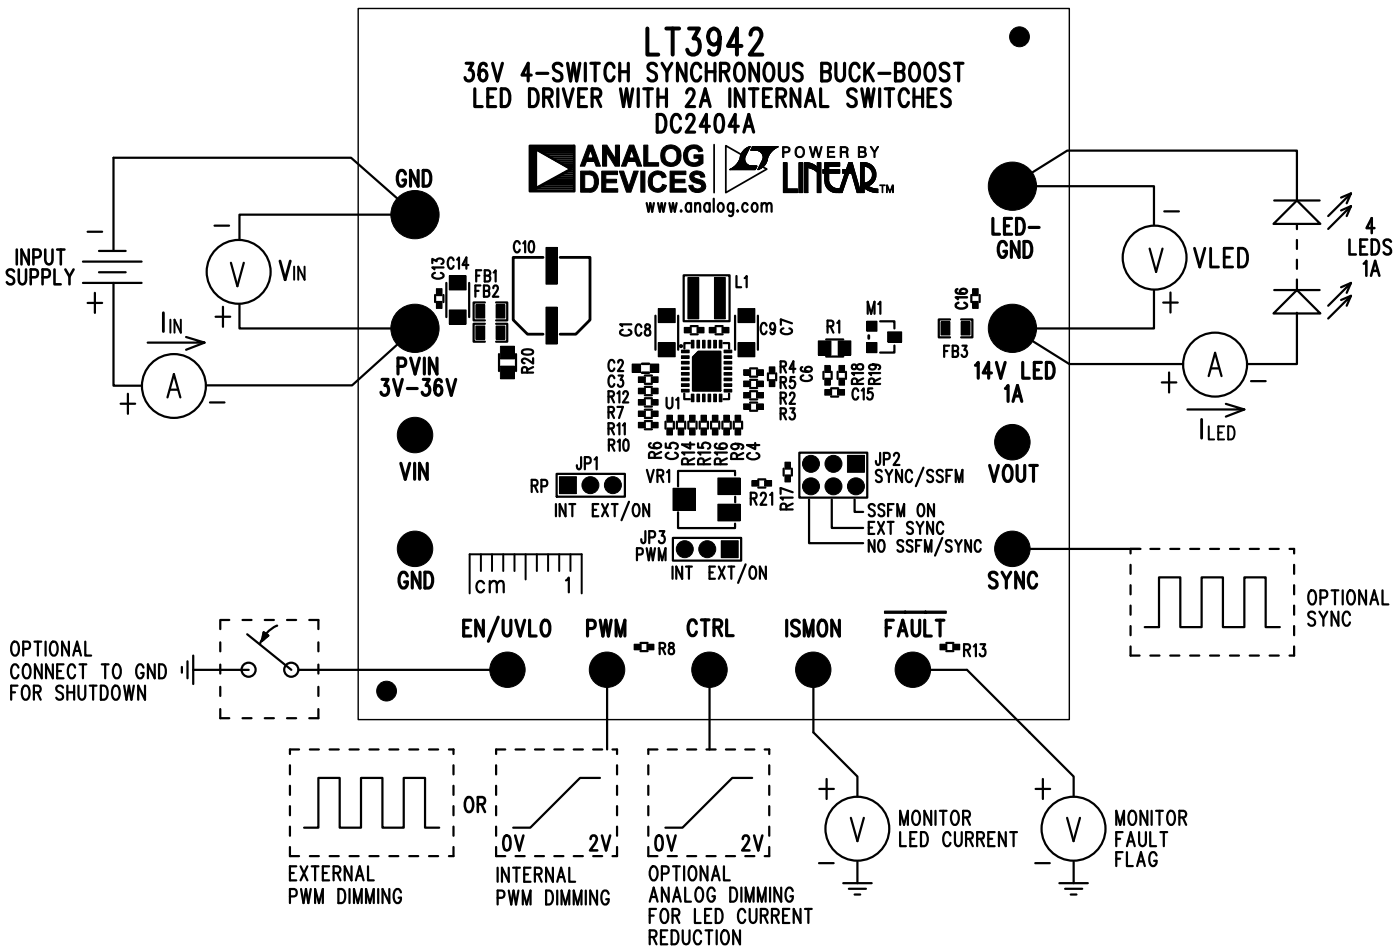

Figure 1. Test Procedure Setup Drawing for DC2404A
1. With power off, connect a string of LEDs that will run with forward voltage less than or equal to 14V (at 1A) to the LED+ and LED- turrets on the PCB as shown in Figure 1.